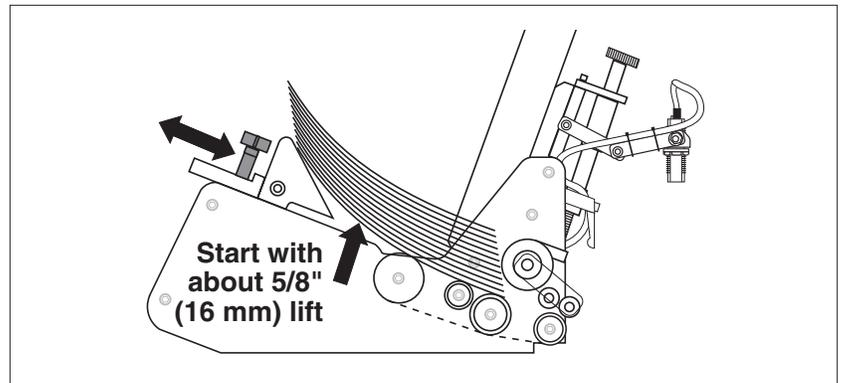

Figure 23. Adjusting Back Wedge for Proper Lift
4. Move the back wedge forwards and backwards until the bottom sheet is not touching the table top (Figure 23). A good starting point is to measure about 5/8 in. (16 mm) from the bottom sheet to front edge of table top. Then as you test, you can “fine tune” from this point. Refer back to the previous page for other helpful guidelines.